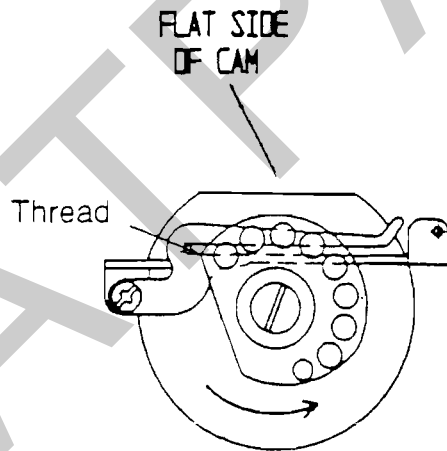

FIGURE 15
I. Chain Looper Thread Take-up Cam (Figure 15)